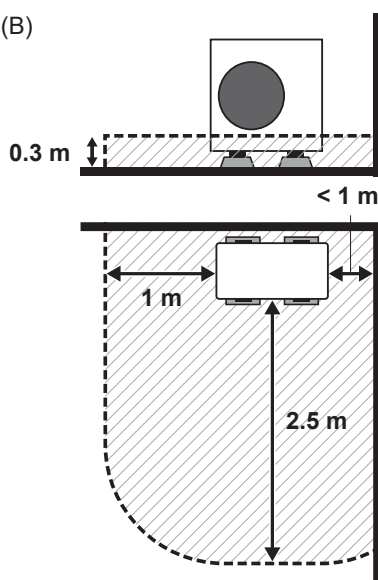

Fig. 2-5
(3) When installed in a location with 2 surfaces opened (where the distance between one side of the unit and the wall is less than 1 m, e.g. at the corner of a building wall) (Fig. 2-5)
Where the distance between one side of the unit and the wall is less than 1 m, same conditions as shown in Fig. 2-5 apply.